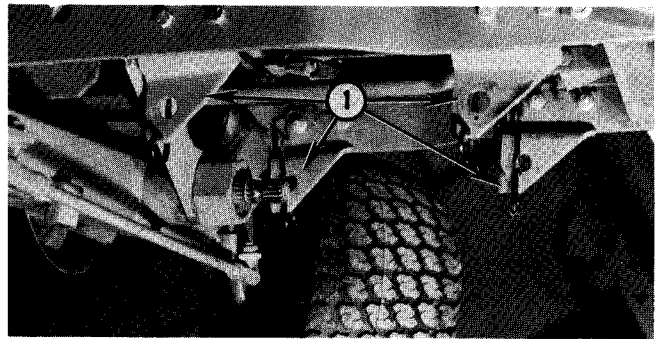

Fig. 40 — Anchor Plates Installed
3. Install anchor plates and retainer springs on the inside of Tractor frame as shown in Figs. 40 and 41.